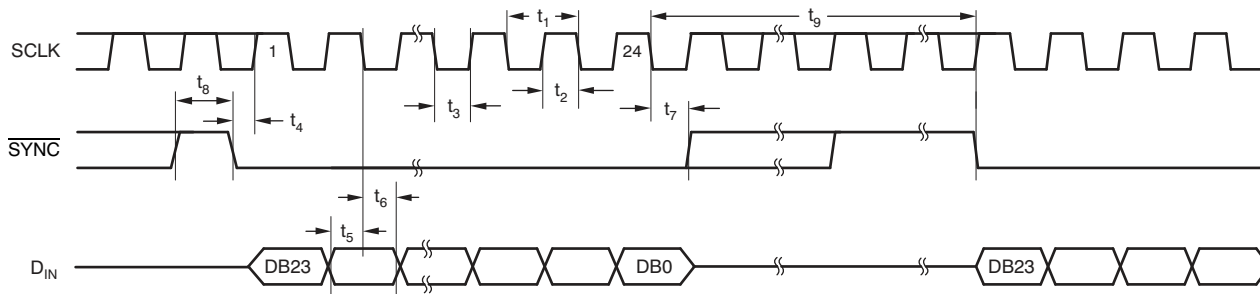

Figure 1. Serial Write Operation
- (1) All input signals are specified with t_R = t_F = 5 ns (10% to 90% of V_{DD}) and timed from a voltage level of (V_{IL} + V_{IH}) / 2.
(2) See Figure 1.
(3) Maximum SCLK frequency is 30 MHz at V_{DD} = 3.6 V to 5.5 V and 20 MHz at V_{DD} = 2.7 V to 3.6 V.